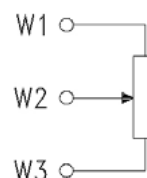

FIG. 1
tiometer presents 0 ohm between W3 and W2 and 1000 ohm between W2 and W1, when the actuator is in upper position (see Fig. 1), and a 50 ohm variation for every mm of stroke, increasing between W2 and W3 and decreasing between W2 and W1.
- For MVB52/56 only, make sure that jumper SW2 is in A position (Fig. 1);